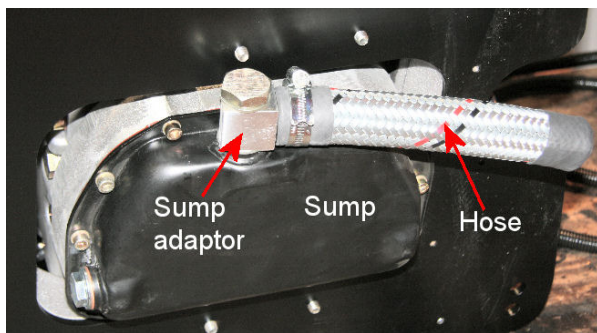

Fig 5-18 Sump adaptor
13. Disconnect the sump adaptor from the dipstick assembly (Fig 5-18).